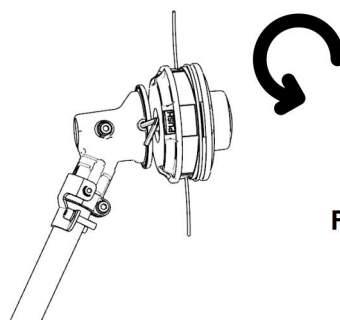

Fig.3
- Put the Allen key inside the inside hole, and rotate the trimmer head onto the drive shaft by anti-clockwise, until it's tight enough (Fig.3)